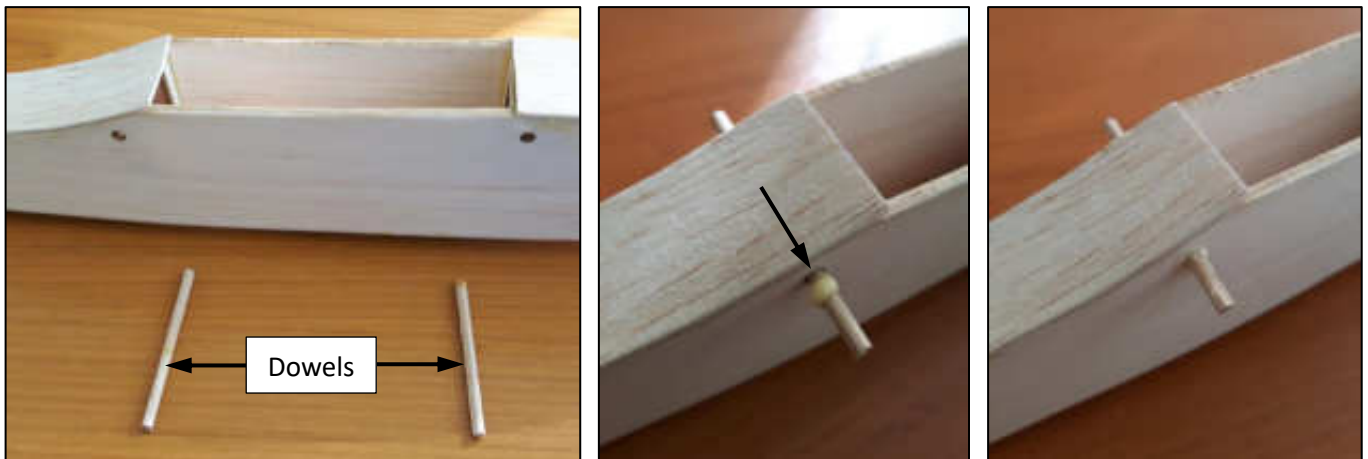

Figure 26: Glue fuselage dowels in place.
26. Insert wooden dowels into the fuselage and glue them in place, Figure 26. These dowels are used to attach the wing to the fuselage using elastic bands.